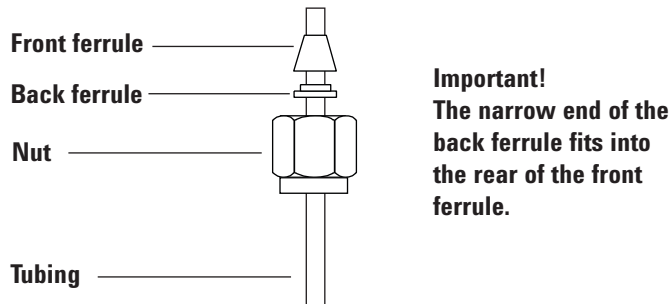

Figure 14 Swagelok nuts and ferrules
- 1 Place a Swagelok nut, back ferrule, and front ferrule to the tubing as shown in Figure 14.